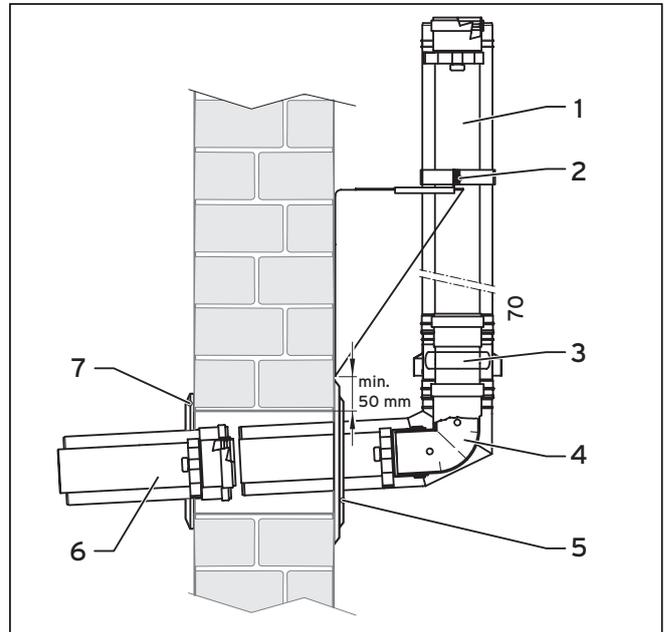
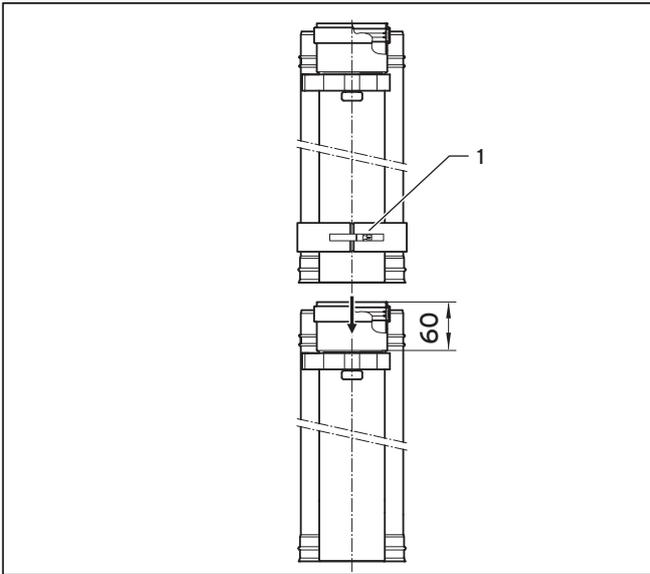
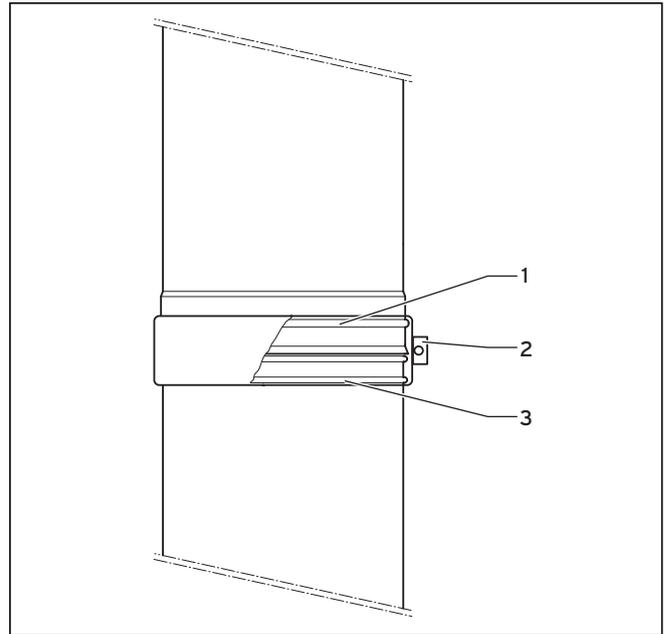

Fig. 2.20 Assembly of external wall pipe connection
Fig. 2.21 Plugging together the flue gas components of the external wall system
Fig. 2.22 Securing external wall elements with air clamp
- Suspend one air clamp (1, Fig. 2.21) from each external wall extension (1, Fig. 2.20) and air intake piece (3, Fig. 2.20) respectively.
- Plug the air intake piece (3, Fig. 2.20) and wall breakthrough elbow (4, Fig. 2.20) together until the limit stop is reached, repeat this procedure for the external wall extension (1, Fig. 2.20) and air intake piece (3, Fig. 2.20).
- Place the air clamp (1, Fig. 2.21) over both outer corrugations (1, 3, Fig. 2.22) and fully tighten the clamping fixture (2, Fig. 2.22).
- Insert the wall breakthrough elbow (4, Fig. 2.20) with air intake piece and extension in the wall opening.
- Place the clamping ring of the external wall bracket (2, Fig. 2.20) over the external wall extension and fully tighten both clamping bolts.
- Shorten the white extension (6, Fig. 2.20) to the required length if necessary.
- Place the white extension (6, Fig. 2.20) on the wall breakthrough elbow from the inside (4, Fig. 2.20).
- Screw on the internal collar (7, Fig. 2.20) from the inside.
- Screw on the external collar (5, Fig. 2.20) from the outside.